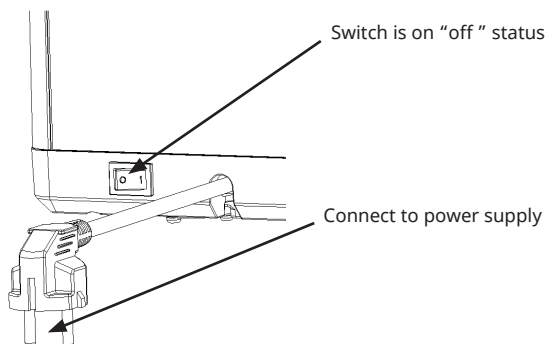

Figure 13
6. Turn on the power switch to "I" position to power on the beer cooler (while "0" position is to power off it) (see figure 13).